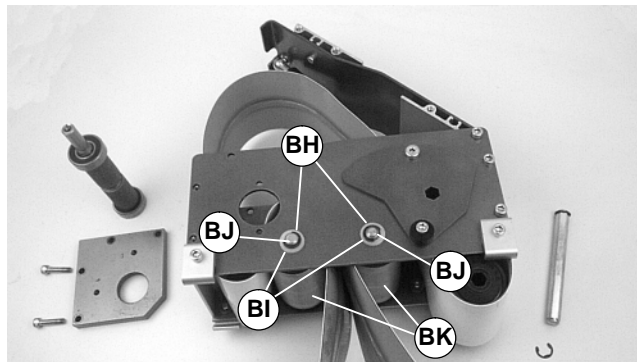

Figure 44
- For 2" (44 mm), 3" (70 mm) or 4" (95 mm) wide conveyor, detach E-ring clips (BH of Figure 44). Remove washers (BI). Remove pulley shafts (BJ) and pulleys (BK).